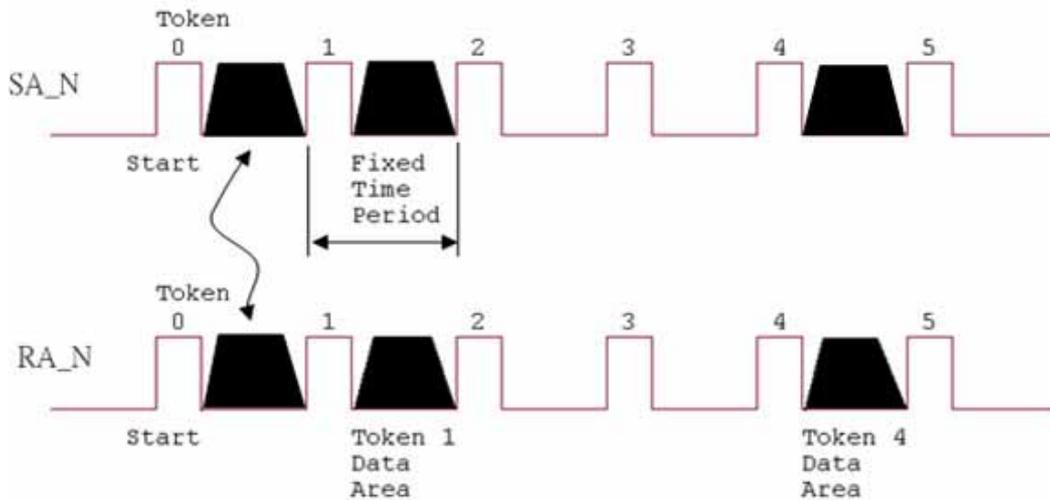

Figure 1.1 Token stream controlled by network manager, SA0
- The Token stream is produced cyclically by hardware at the fixed time interval, see Figure 1.1. Therefore, the FRnet I/O system can provide both the isochronous and deterministic functionalities.
- It can provide data transmission from one node (SA) to remote multiple nodes (RA) at the same time. It implies that the SA address must be unique, but the RA address can be different or the same in the network.